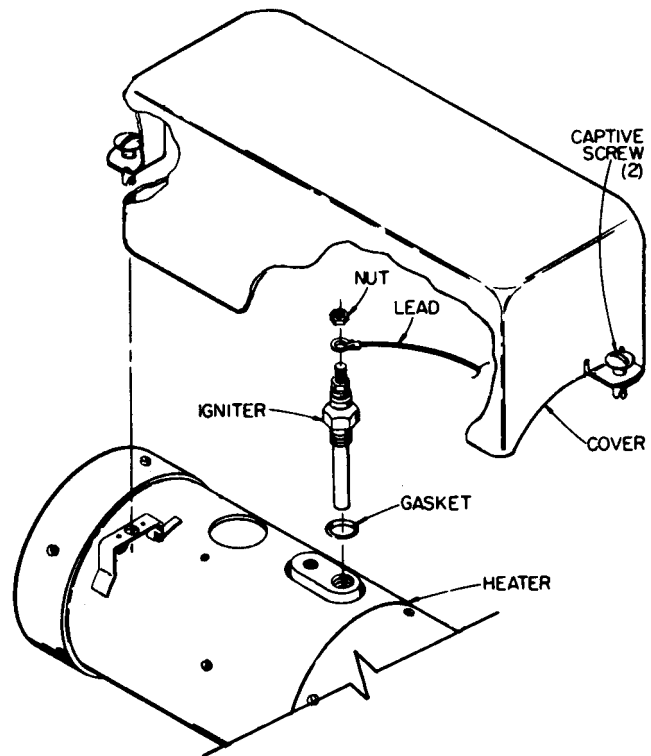

Figure 4-5. Fuel burning winterization kit heater igniter, removal and installation
a. REMOVAL. Disconnect harness from heater and remove heater igniter as illustrated in figure 4-5.
c. INSTALLATION. Install heater. igniter as illustrated in figure 4-5 and connect harness to heater.